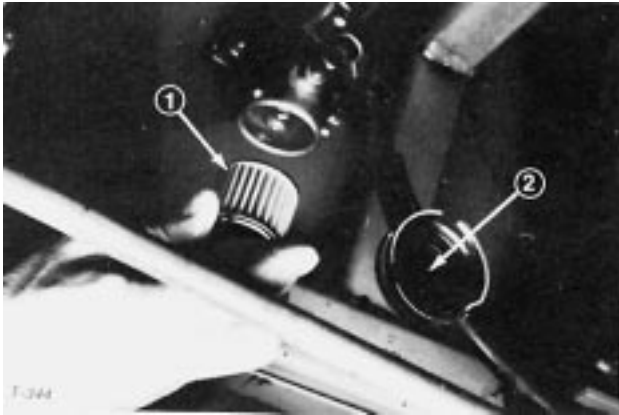

Figure 34
3. Place a drain pan under fuel pump and remove cover from fuel pump with 17 mm wrench (Fig. 34). Take care not to damage wire while removing cover.
4. Pull filter out of pump body (Fig. 34).
7. Clean magnet of any residue (Fig. 34), insert filter into body and install cover.